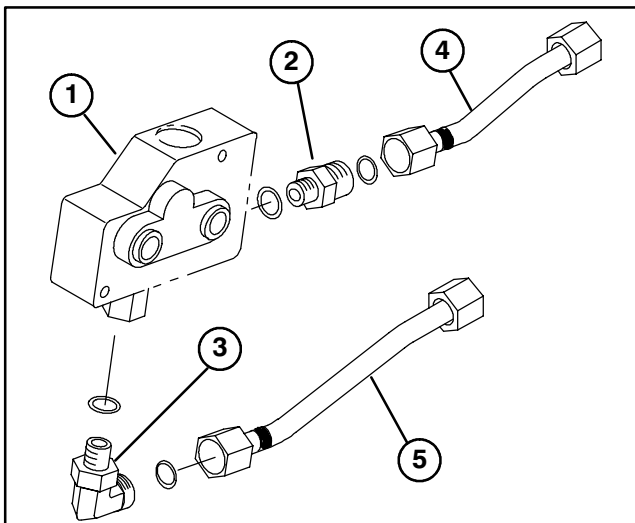

Figure 9
5. Loosen (2) capscrews securing lift valve to frame channel (Fig. 9).
7. Install new straight fitting and O–ring into rear of lift valve (Fig. 9).
10. Install new elbow fitting and O–ring into bottom of lift valve (Fig. 9).
11. Loosely install shorter hydraulic tube to straight fitting on rear of lift valve (Fig. 9).
12. Loosely install longer hydraulic tube to elbow fitting on bottom of lift valve (Fig. 9).